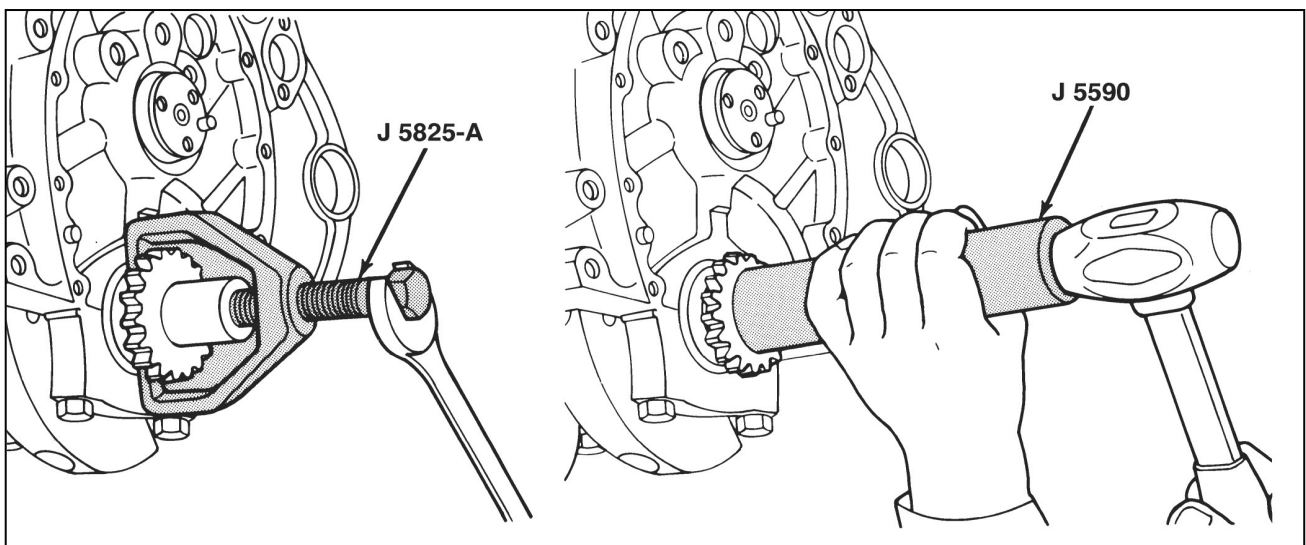

Figure 12-44 Crankshaft Sprocket Replacement
2. Crankshaft sprocket. Use J 5590 (figure 12-44).